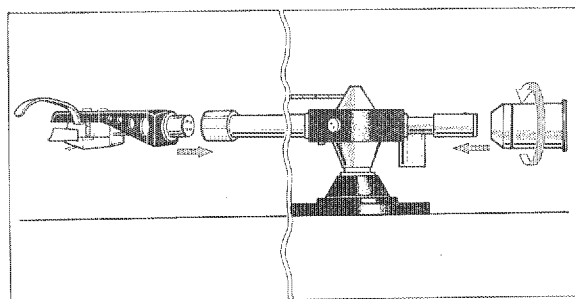

Fig. 7
7. Remove the main tone arm weight from the accessory box and screw it onto the end of the arm (Fig. 7)